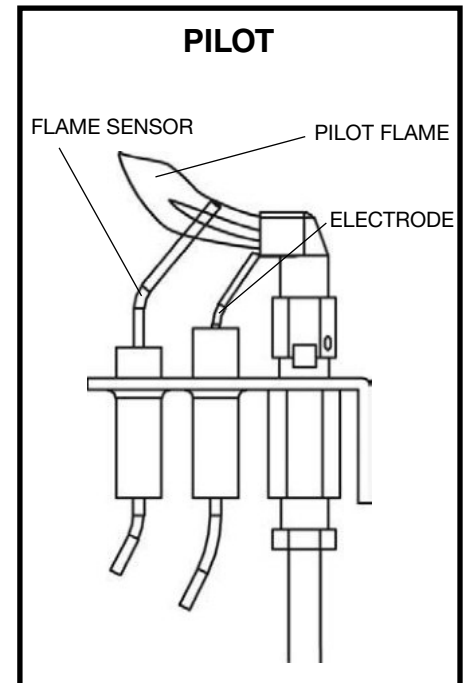

Figure 94: SIT pilot assembly.
- Check the pilot system for proper flame size and operation. Clean pilot free of soot, dust or any other deposits (Figure 94 and Figure 95). Have a qualified service person adjust the pilot flame.